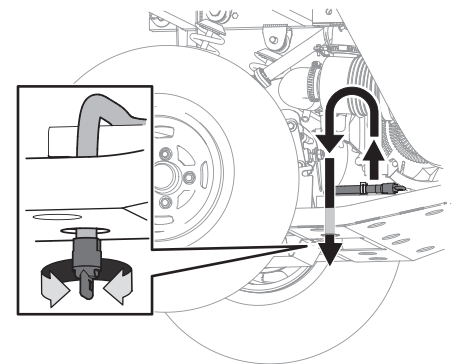

Figure 4-2
1. Place the oil drain hose down through the hole closest to the oil drain hose. See Figure 4-2.
2. Turn the plug counter-clockwise and allow oil to drain into a suitable container. See Figure 4-2.